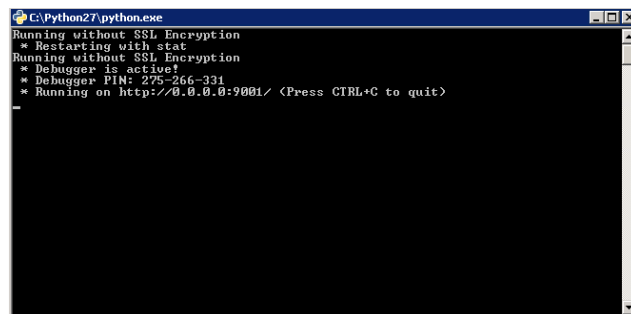

Figure. 1a: Python window
- The Python status window will appear as shown in Figure 1a.
- To stop the Python web server, select the running Python screen as shown in Figure 1a. Press “Ctrl + C”.